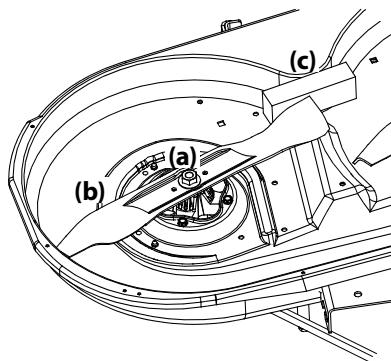

Figure 4-24
2. Use a  $1\frac{5}{16}$ " wrench to hold the hex nut on top of the spindle assembly when loosening the hex nut (a) securing the blade (b). A block of wood (c) may be placed between the deck housing and the cutting edge of the blade (b) to help in breaking loose the hex nut (a) securing the blade. See Figure 4-24.